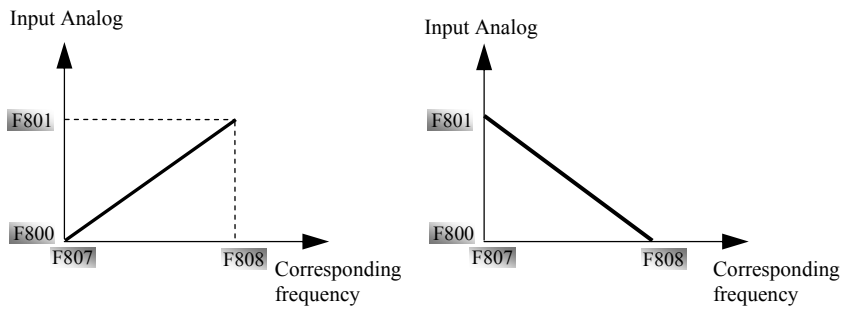

Fig 5-12 Proportion Mode of Analog Adjusting
- The setting values of F807 and F808 decide proportion mode of analog adjustment change, as shown in Fig5-12: